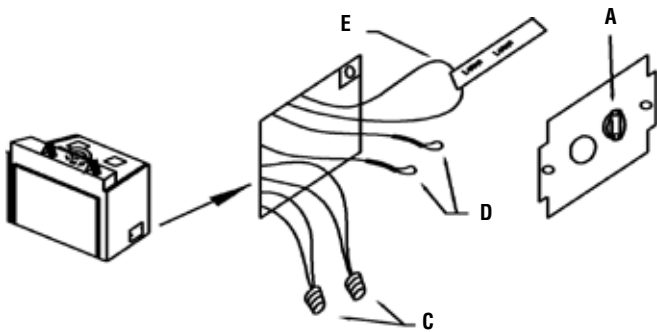

Figure 29
- * The electrical box is located at the right rear of the fireplace (see **Figures 29 and 30**). Remove the cover, loosen the wire clamp A and feed the household supply line through the clamp and retighten clamp.
If desired, a wall-mounted fan speed control can be installed. The breaker supplying electricity to the fireplace must be turned off at the electrical panel before any connections are made. The loop of wire with the label attached (E in **Figure 29**) may be cut and the wire leads from the wall-mounted speed control connected to each end of the cut wire.
The remaining red and white wires with capped ends (wires D in **Figure 29**) are for the optional Forced Air Heating System. See the instructions provided with the system for installation details.